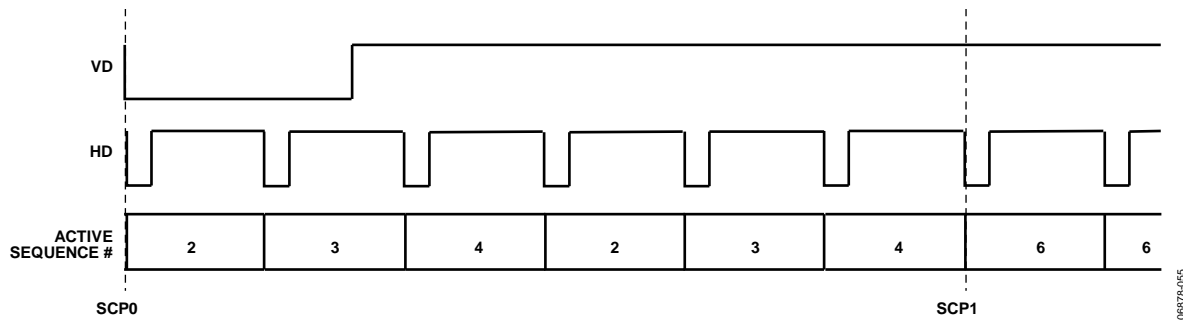

Figure 56. Example Output Using SEQ\_ALT\_INC and SEQ\_ALT\_RST Functions
To support the timing requirements of some advanced CCDs in a memory-efficient manner, the AD9920A can automatically increment the sequence number at the end of a given line through the use of the SEQ\_ALT\_INC register (V-Sequence Register 0x09, Bit 20). It can also reset the sequence number to the sequence defined in the field register through the SEQ\_ALT\_RST register (V-Sequence Register 0x09, Bit 21). Combining these two registers allows the user to create a loop of sequences for a given region. See Figure 56 for an example of how to use these two functions together. The example in Figure 56 uses the register settings listed in Table 18.
**Table 18. Register Settings for the Example in Figure 56**